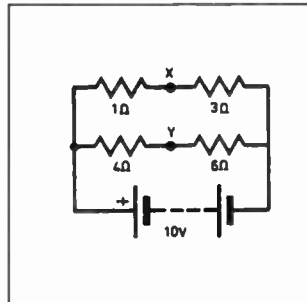

Fig. 4.11. Bridge calculation circuit.
6. What is the potential difference between points X and Y in the circuit Fig. 4.11? What change would need to be made to the value of the 3Ω resistor so that X and Y were both at the same potential?